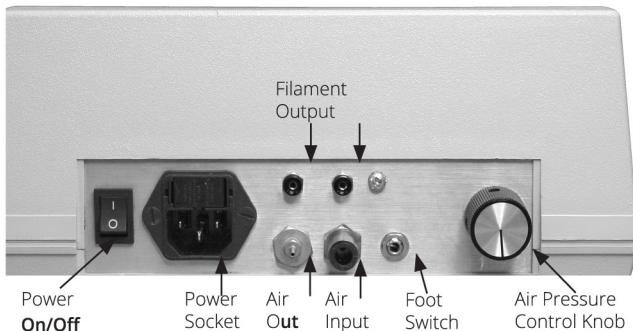

Fig. 5—DMF1000 rear panel
- The **air pressure display** can be adjusted from 0 to 60PSI with the control knob found on the back of the unit (Fig. 5). The lower window displays the current pressure in PSI when the unit is set to Pressure mode.